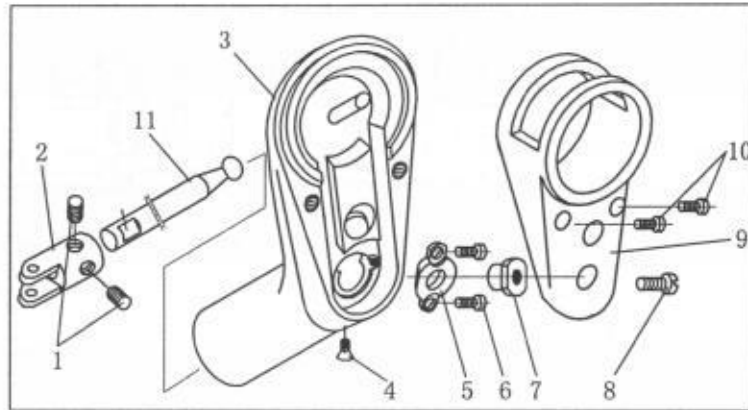

Fig. 16
(8) Adjustment of the chain and replacement of the ball connecting rod (Fig. 16)